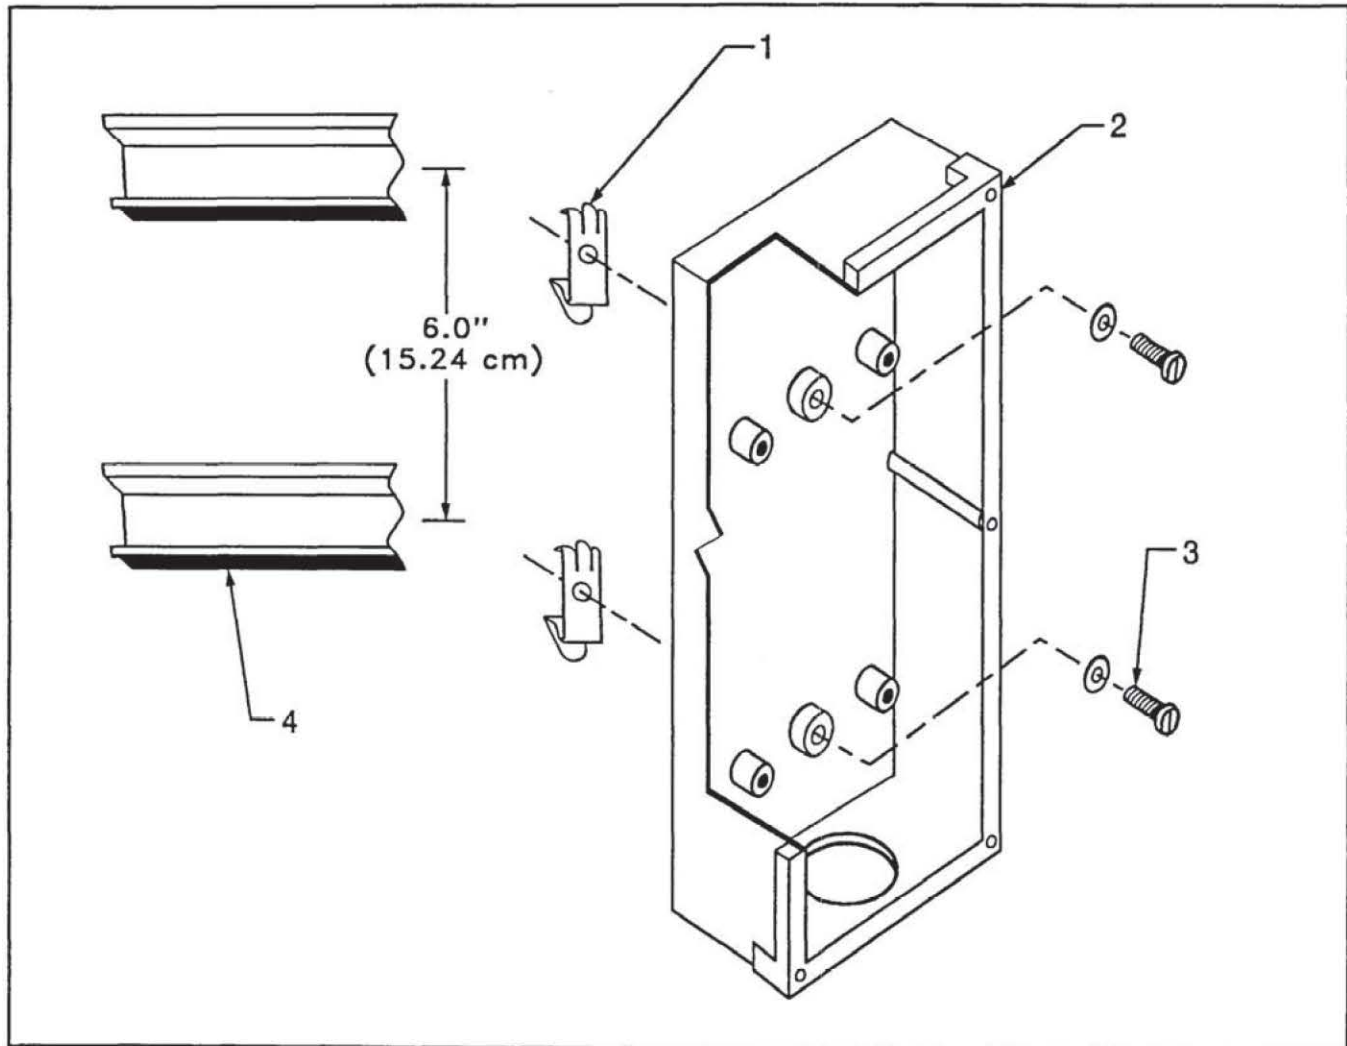

Figure 3.4 - Mounting to horizontal DIN rails
1. Use the two M4 x 12 mm screws to secure the two clips to the back enclosure; make sure that they are oriented for mounting to the horizontal rails (Figure 3.4).